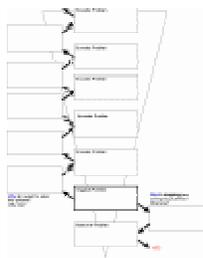

Figure 2: Modified Why-What's Stopping Analysis Problem Definition Schema
First, however, as an aid to assist in our attempts to think about problem definition hierarchy, it is useful to introduce here a modified version of the 'Why-What's-Stopping?' analysis tool first developed by Basadur (1). The tool provides users with a structure through which to visualise an initial problem statement in the context of its broader and narrower context. The tool is aimed at overcoming the highly common situation which starts with statements like 'the problem is...' and continues a few seconds later with a headlong plunge into problem solving mode. This phenomenon is one of the most important manifestations of psychological inertia. Countless situations point to the fact that the initial problem definition turns out to be anything but the 'right' one. So, the tool takes the initial 'the problem is...' statement and forces the user to think about the broader and narrower problem. A typical schema is reproduced in Figure 2. Basically, the user uses the 'Why?' question to broaden the problem and uses the question 'What's Stopping?' to narrow the question. In keeping with the 'ask why 5 times' philosophy, the schema can be broadened or narrowed multiple times. (In line with Deming's statement, it would be very unlikely that we would have to repeat the why cycle more than five times to get to the root cause - in practice it will usually take less.) At the end of the process, the user has obtained a vertical stack of hierarchical problem definitions, from which a much clearer picture of what the 'right' problem is should emerge in conjunction with some of the strategies described below.